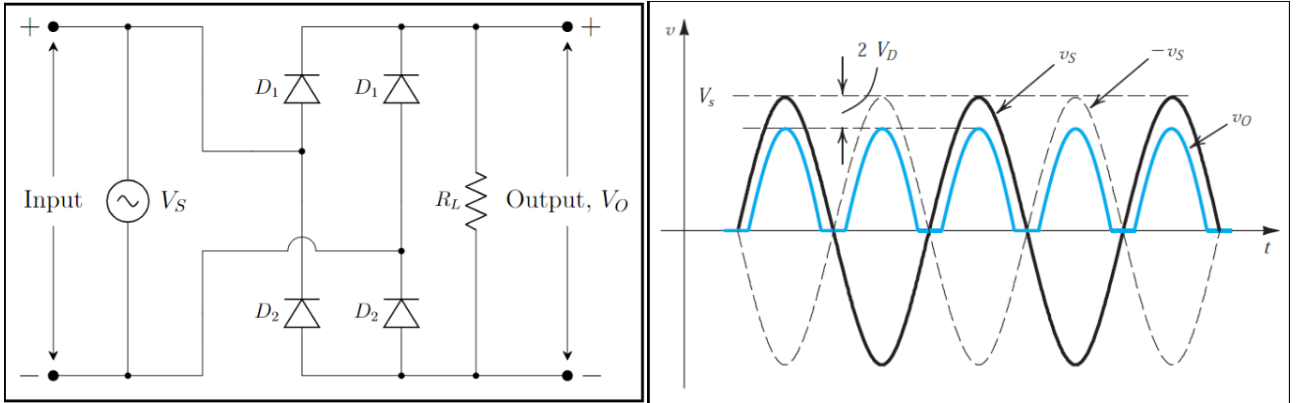

Figure 5: *Full-Wave Rectifier Circuit without Capacitor and the Waveform of Input and Output*
1. Construct circuit of **Figure 5**. Observe  $V_S$  and  $V_O$  separately on the oscilloscope [i.e. don't use both channels simultaneously, use only one channel].